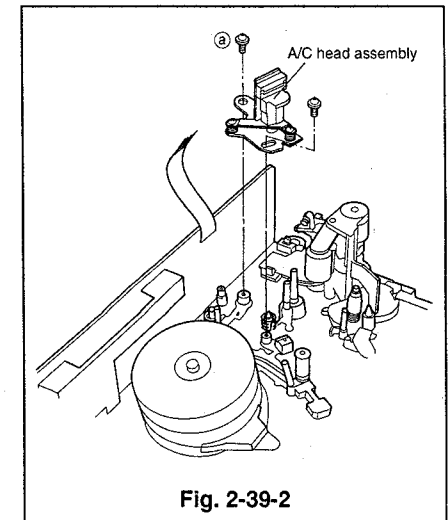

Fig. 2-39-2
- ② Remove the two screws (a and b) holding the A/C head assembly to the main plate, and to remove the A/C head assembly. (Refer to Fig. 2-39-2.)
- ② Place the A/C head assembly in the position shown in Fig. 2-39-2 and secure it with the two screws (a and b).